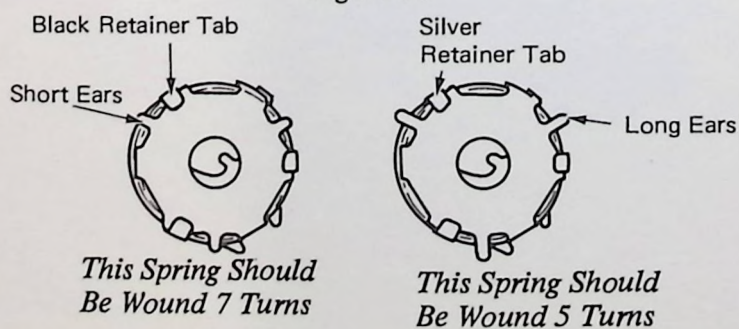

Figure 18
5. Manually latch the carrier return mechanism and rotate the turning wheel, while counting escapement shaft revolutions, until the mainspring is wound the proper numbers of turns. (Figure 18)